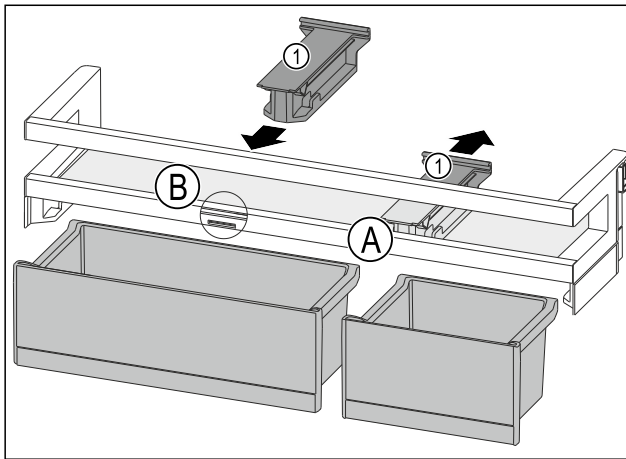

Fig. 107
- Pull off the retaining part Fig. 107 (1) in position Fig. 107 (A) downward.
- Insert the retaining part Fig. 107 (1) in position Fig. 107 (B).